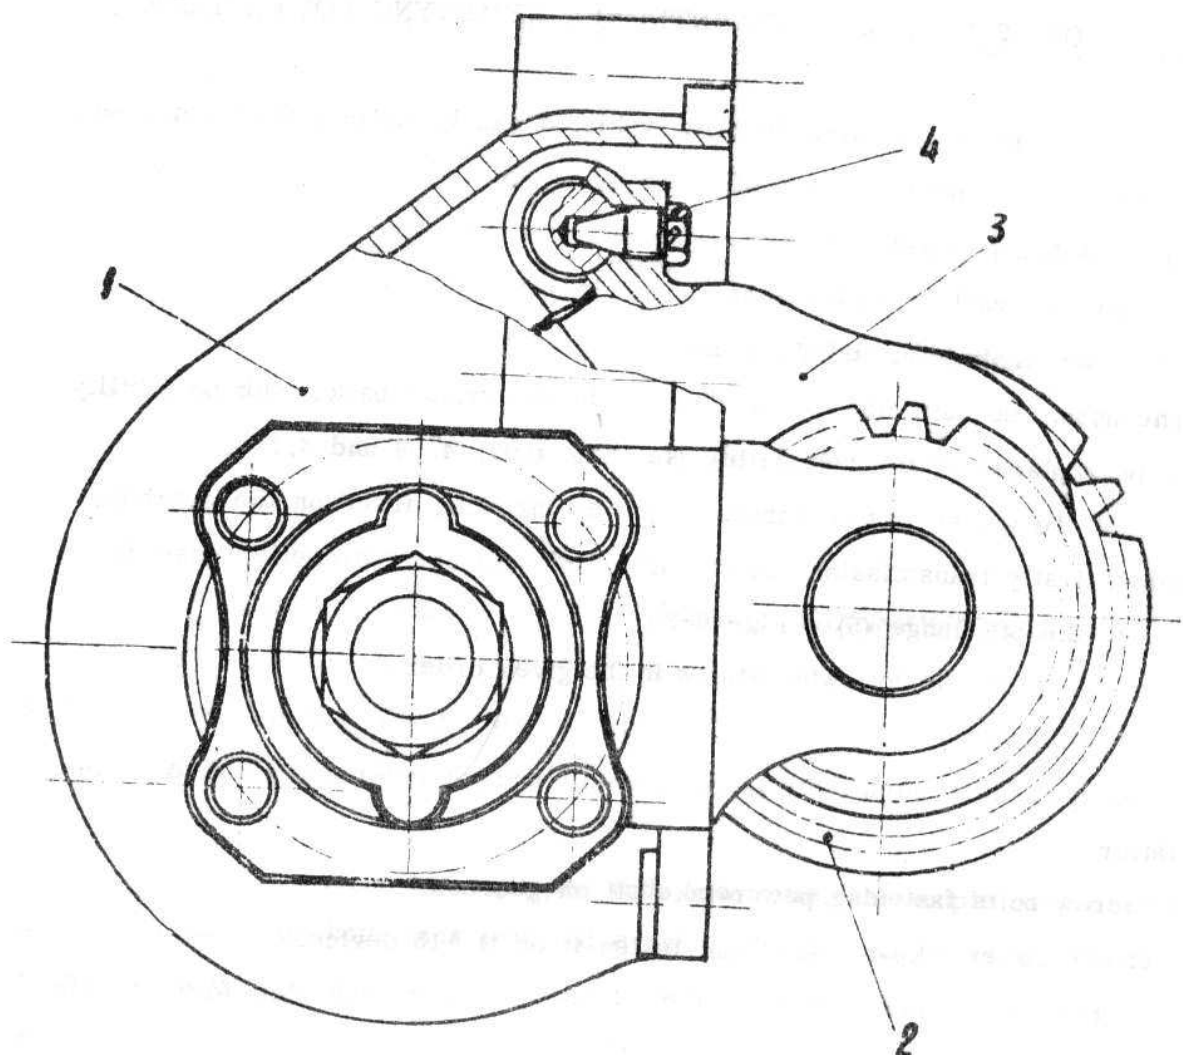

Fig. 4.109. GEARBOX POWER TAKE-OFF (see also Fig. 4.97)
- Unscrew and remove bolt (4) - Fig. 4.109 - securing the shift fork on the control shaft.